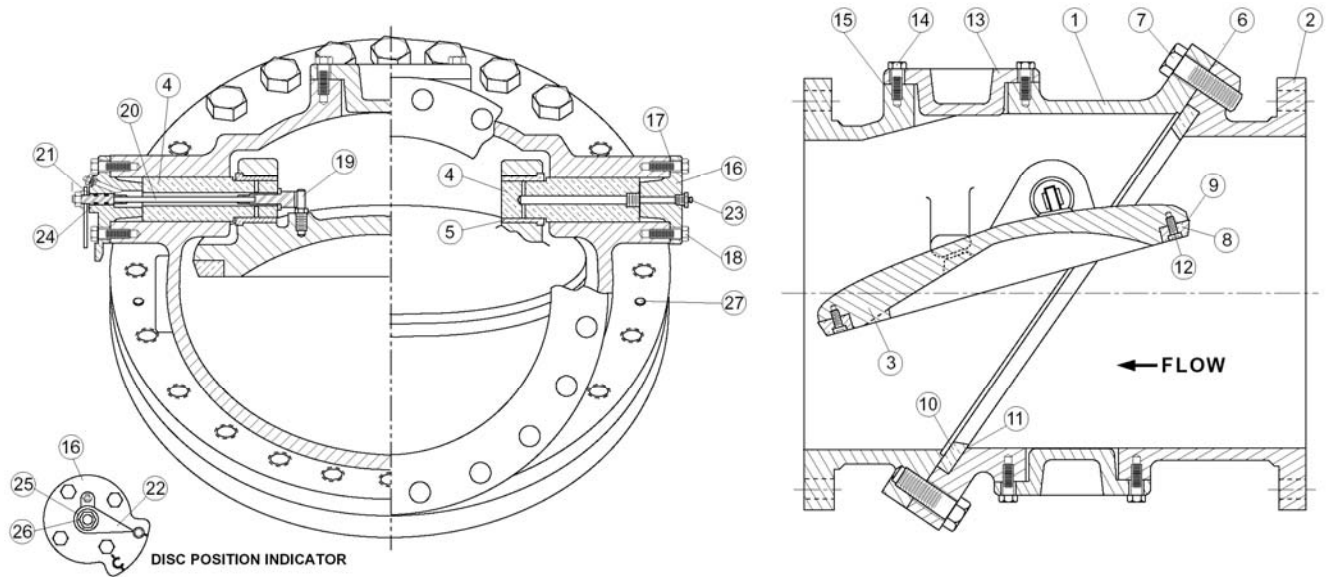

Figure 2. Basic Valve Construction
The standard Tilted Disc Check valve is ruggedly constructed of cast iron. See the specific Materials List submitted for the order if other than standard iron construction. The internal metal components are aluminum bronze or stainless steel. The pivot pins (4) are fixed in the body (1) and support the disc (3). Grease fittings (23) are provided to allow regular lubrication of the pivot pin. The general details of construction are illustrated in Figure 2.
The valve should be removed from the pipeline for disassembly. All work on the valve should be performed by a skilled mechanic with proper tools. Refer to Figure 2.